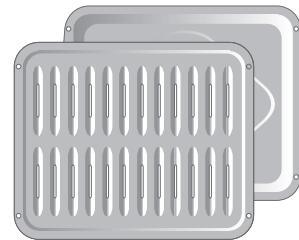

Figure 22: Broil pan and insert
- Do not use the broiler pan without the insert (Figure 22). Do not cover the broil pan or insert with aluminum foil; the exposed grease could ignite. The insert is slotted and allows hot grease from the meat to drain away into the broiler pan